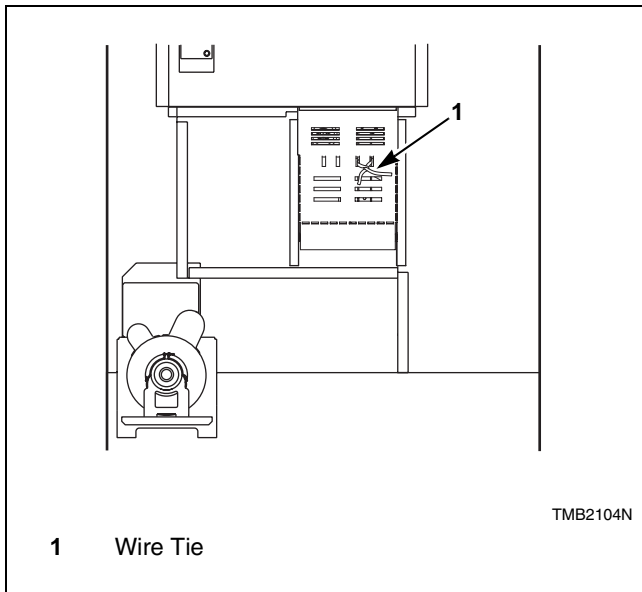

Figure 4
3. Remove and discard wire tie from the airflow switch so it can swing freely. Refer to *Figure 4*.
- **Failure to remove wire tie from rear of machine. Refer to *Figure 4*.**